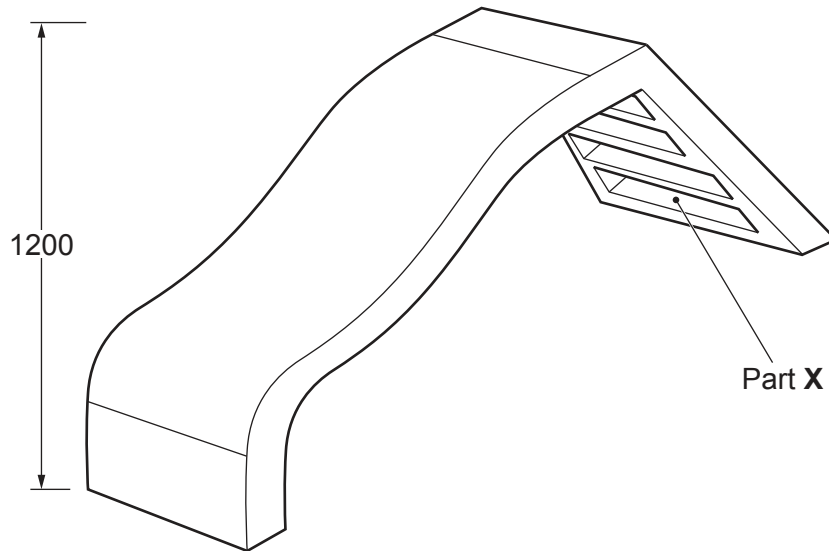

Fig. 4.1
- 4 Fig. 4.1 shows a child's slide. This type of slide is often found in a playground.